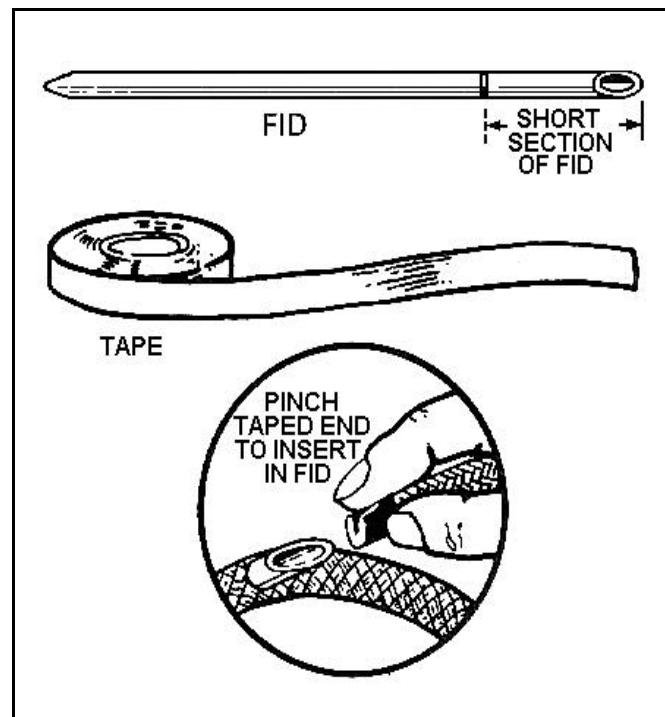

Figure 12-47. Tublar Fid
- **Tubular fid.** The hollow steel tool used for cover and core insertions (see Figure 12-47, page 12-42).